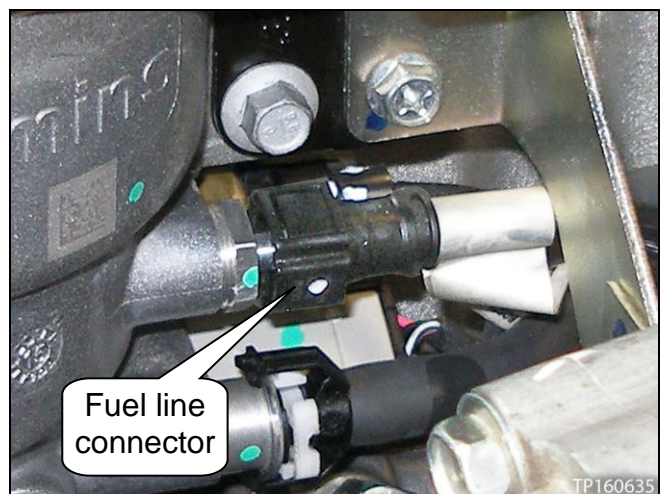

Figure 23
- To remove the fuel line, pinch the tabs on both side of the fuel line connector, and then pull off (see Figure 23).